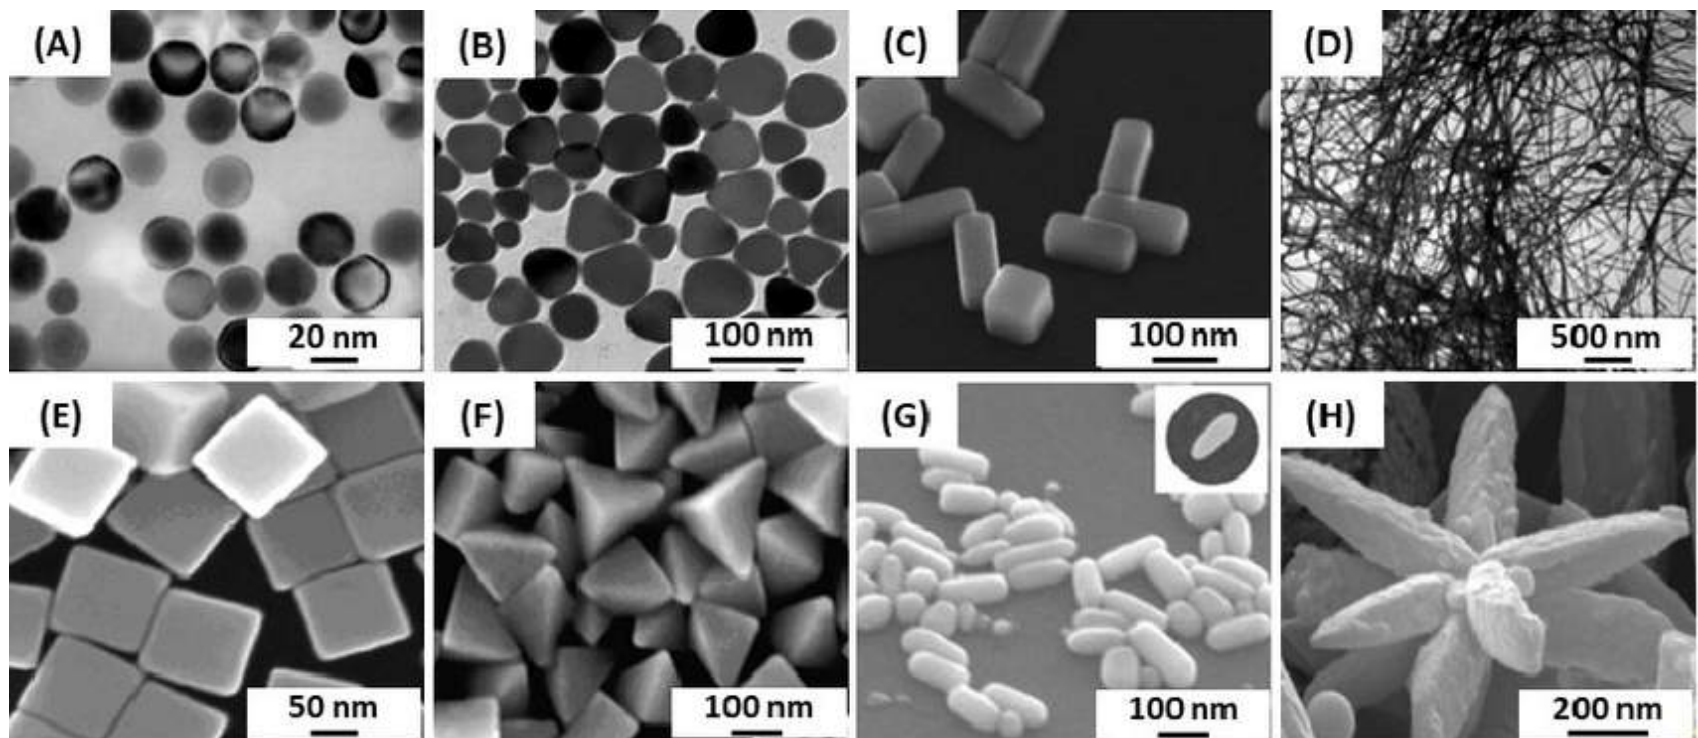

Fig. 8: TEM images of silver nanoparticles with different shapes
- Here are few examples are shown in Fig. 8.